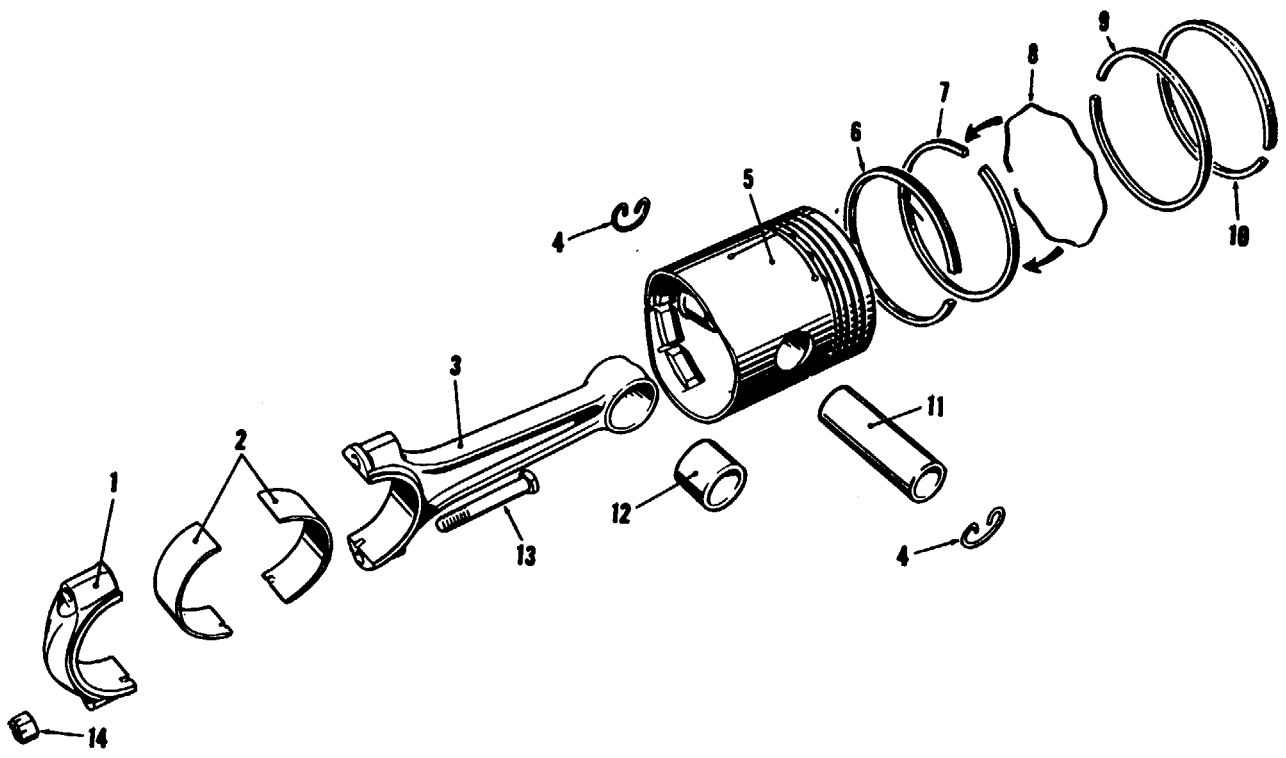

Figure 104. Exploded view of piton and connecting rod.
a. Removal and Disassembly (fig. 104). Remove the compressor bank cylinder head (par. 126a). Remove the engine bank cylinder head (par. 122a). Remove the lower oil pan (par. 217a). Unscrew the connecting rod bolt nuts (14) and remove the bearing caps (1). The lower bearing shell (2) comes with the cap. Push the piston (5) through the cylinder bore. Remove the rings (6, 7, 9, and 10) with a piston ring expander (par. 179). Remove the upper bearing shell. Do not let it drop out of the engine. Keep the pairs of shells with their corresponding caps. Tag the pistons so they can be returned to their original positions. Note the relative positions of the inner face of the rod and the T-slot of the piston.